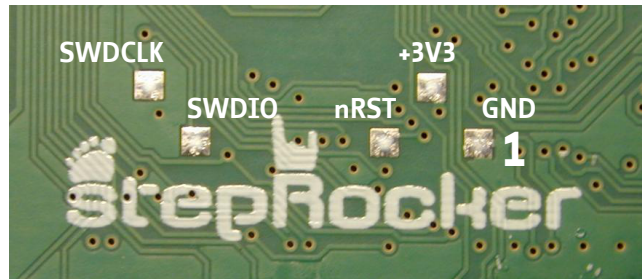

Figure 3: TCM-1110 StepRocker Programming Pads
2. Short the SWDIO pad with the SWDCLK pad (on the bottom side of the PCB, see figure 3).